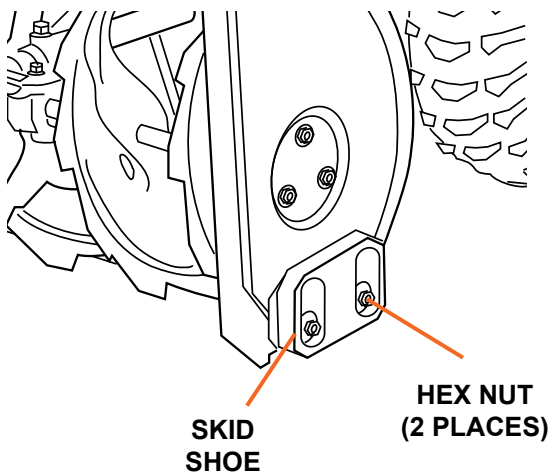

Figure 7
1. Position the skid shoes based on surface conditions. Adjust upward for hard-packed snow. Adjust downward when operating on gravel or crushed rock surfaces. Loosen the two hex nuts that retain the skid shoe in place and move up or down as desired, then retighten the lock nuts (see Figure 7). Repeat for the opposite side of the snow blower.